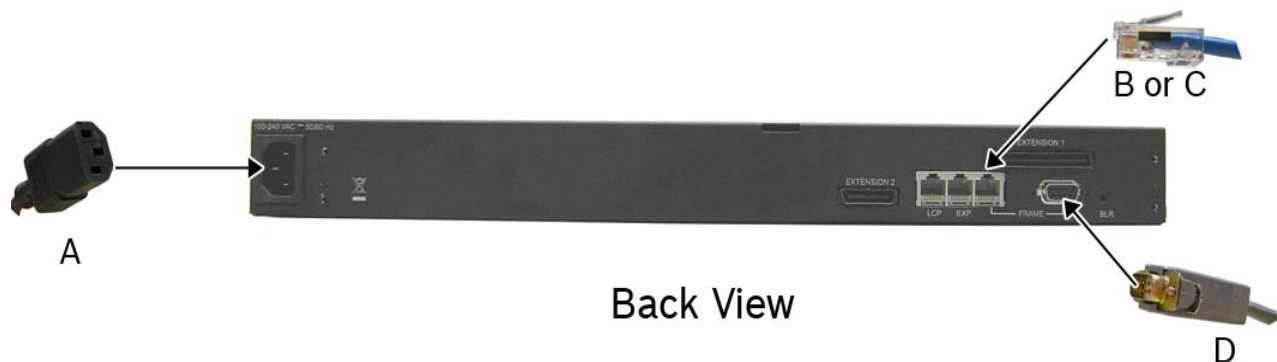

FIGURE 7. KP 12 CLD Installation
Connect an **RJ-45 cable with RTS cabling** (C) to the frame connector (see Figure 7).
Connect a **DB-9 cable** (D) to the DB-9 frame connector (see Figure 7).